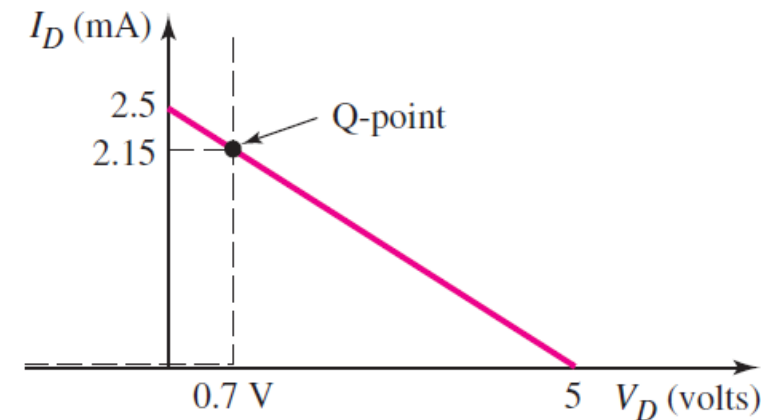

Figure 1.32(a)
- The **load line** for condition A is plotted in Figure 1.32(a).